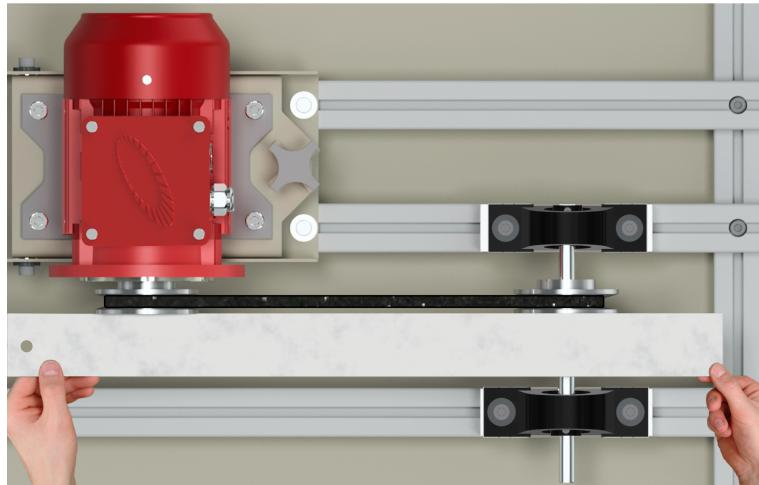

Figure 17. Parallel alignment.
- 24.** Lay a straightedge against the face of both pulleys and move the driven pulley along the shaft until both pulleys are in contact with the straightedge as shown in Figure 17.